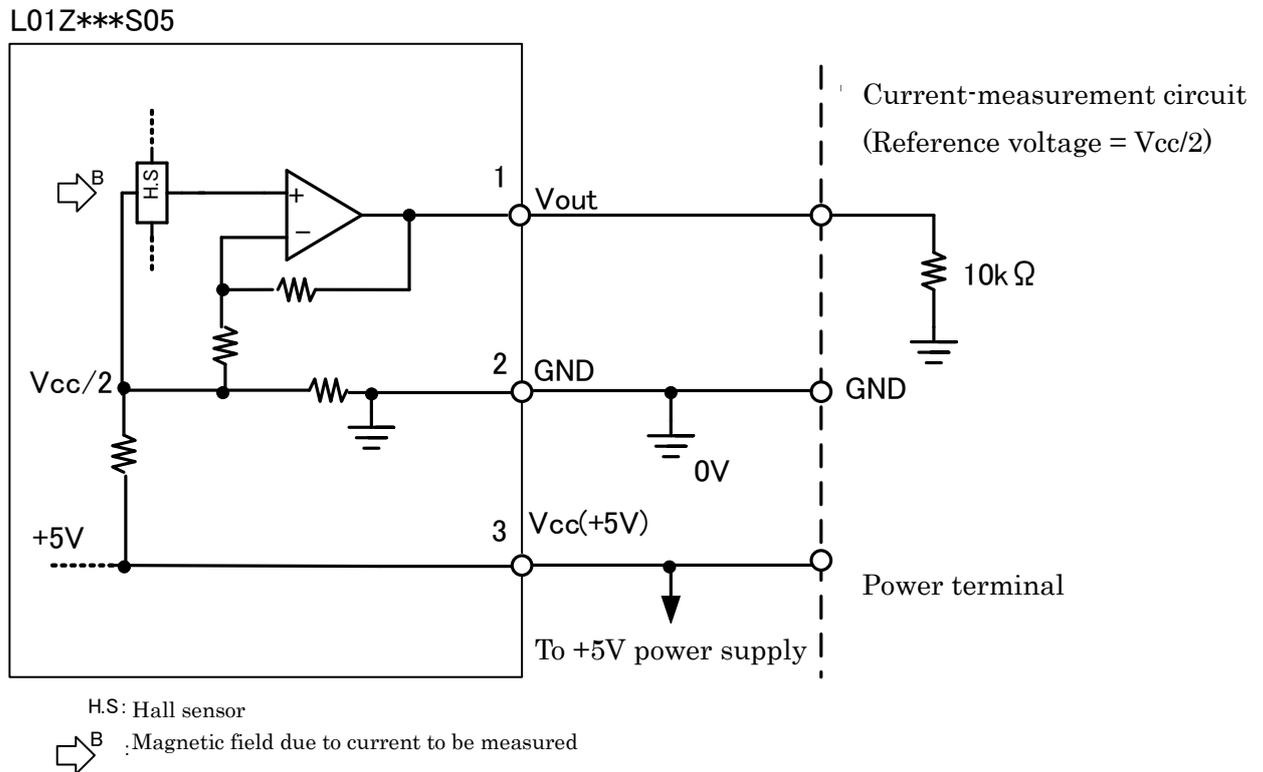

Fig. 2: Standard circuit
#### □ Description of Fig. 2
This current sensor converts a measured current into a voltage. The output voltage  $V_{out}$  (1) in Fig. 2 is based on  $V_{ref}$ , which is half the power-supply voltage  $V_{cc}$ , i.e.,  $V_{ref} = \frac{V_{cc}}{2}$ . When the current to be measured is 0,  $V_{out}$  (1) =  $V_{cc}/2$ . When the current to be measured is in the plus direction,  $V_{out}$  (1) becomes  $(V_{cc}/2) + (\text{voltage converted from the measured current})$ . When the current to be measured is in the minus direction,  $V_{out}$  (1) becomes  $(V_{cc}/2) - (\text{voltage converted from the measured current})$ .
10 k $\Omega$  in Fig. 2 is the equivalent resistance of the receiving circuit of the current sensor output Vout (1). The load resistance between the Vout terminal (1) and the GND potential (0V) is the standard 10 k $\Omega$ .